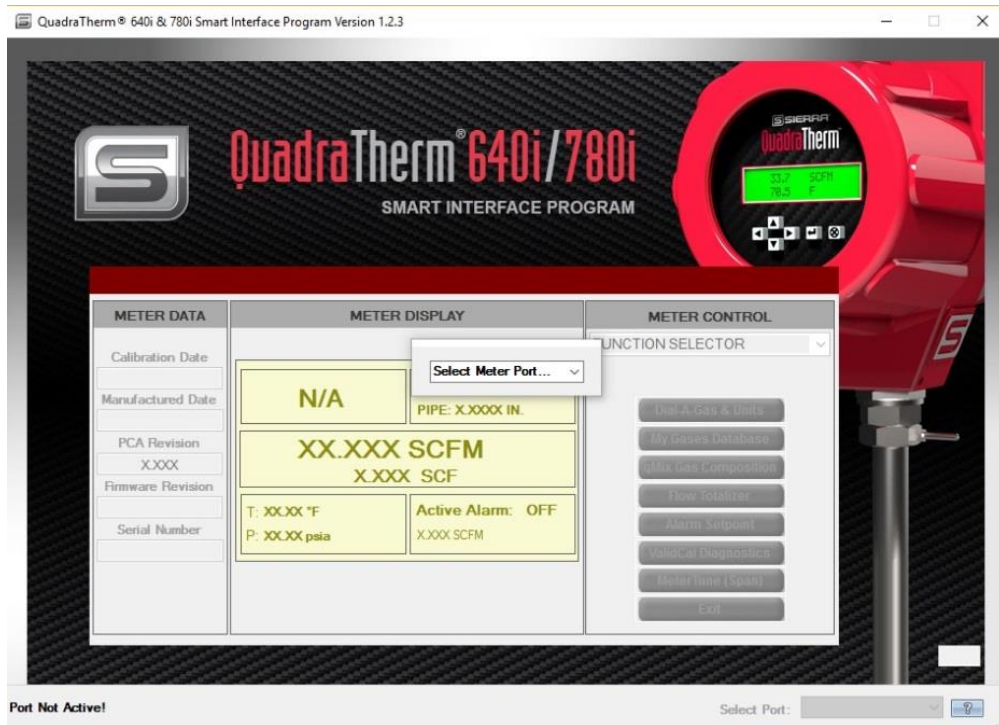

Figure 4. Select Com MeterPort to Use qMix
3. Open the SIP software on your computer and select “COM port” (See Figure 4 below).
4. Open the SIP software on your computer and select “COM port” (See Figure 4 below).